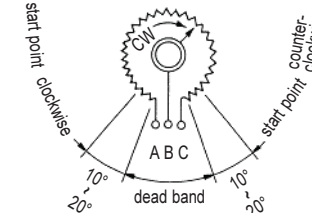

Fig.8 Potentiometer (IP8100)
- Loosen potentiometer set screw while applying power and ensuring output current, then rotate the potentiometer 10-20° away from the dead band (see Fig.8) to decide the start point. Settle the potentiometer with the screws again.